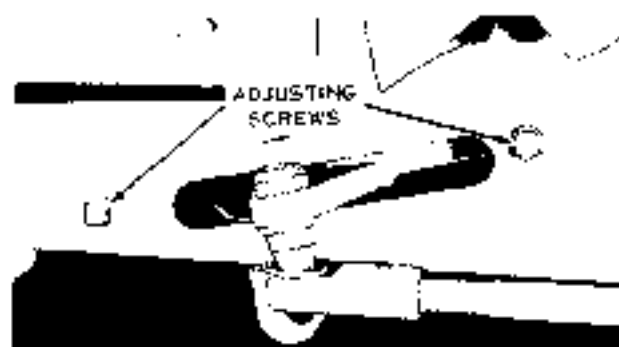

Figure 17
- a. You will find a slot in the right hand frame at the rear of the steering drag link where it connects to the steering gear (See Figure 17.) Near each end of this slot is a square head setscrew, with lock nut, inserted in the frame.